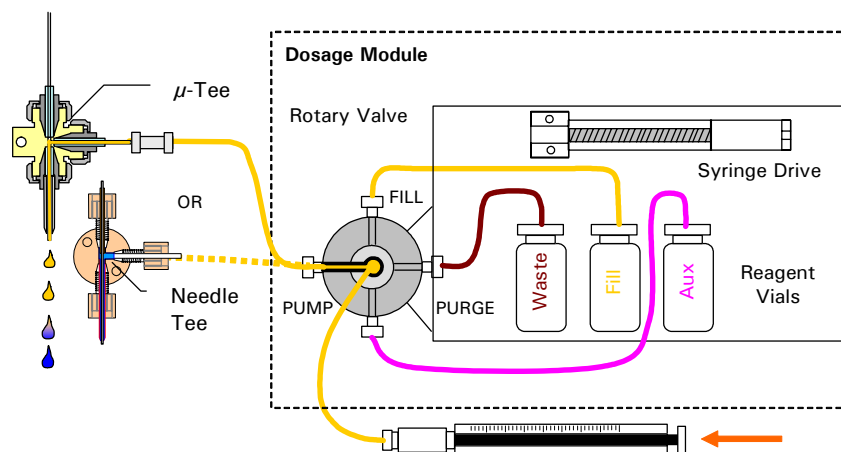

FIGURE A-4 Step 3 – Purge the Tubing
- c) Switch the rotary valve into the PUMP position and purge the tube to the needle (FIGURE A-4).